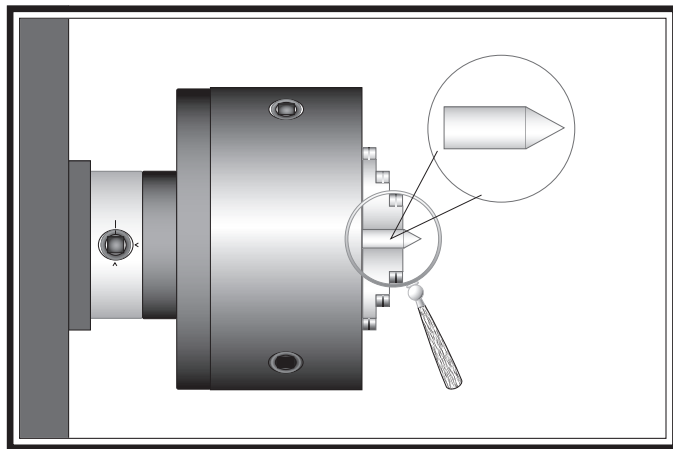

Figure 44. Turning a dead center.
3. Use the other piece of round stock to make a dead center, and turn it to a 60° point, as illustrated in **Figure 44**.